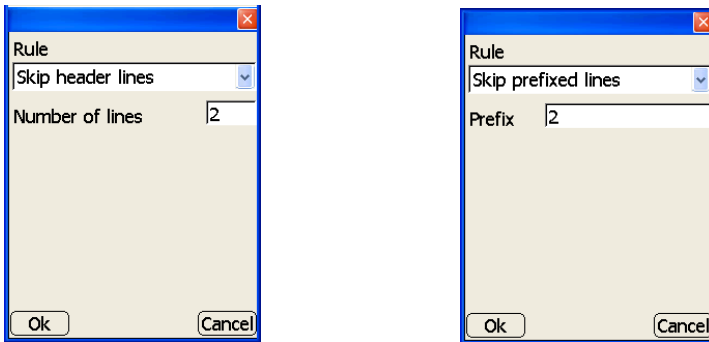

Figure 3-18. Add Import Rules
- **Add** – on the *Import rules* tab, press **Add** to add an import rule and it's respective information (Figure 3-18). After entering in all of the import rule's information press **Ok** to save the information.